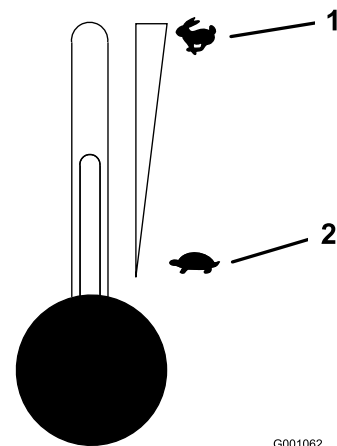

Figure 13
5. Move the throttle control midway between the Slow and Fast positions (Figure 13).
2. Move the throttle lever midway between the Slow and Fast positions (Figure 13).